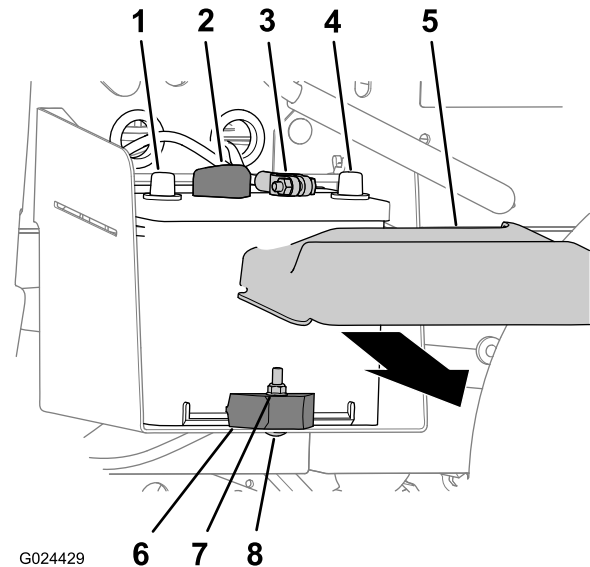

Figure 47
1. Squeeze the sides of the battery cover and remove the cover from the top of the battery (Figure 47).
2. Disconnect the negative battery cable from the terminal of the battery (Figure 47).
3. Disconnect the positive battery cable from the terminal of the battery (Figure 47).
2. Remove the locknut, carriage bolt, and battery clamp that secures the battery to the battery tray (Figure 47).
3. Remove the battery from the battery tray (Figure 47).
1. Align the battery to the battery tray of the machine (Figure 47).
**Note:** Ensure that the positive and negative posts of the battery are aligned as shown in Figure 47.
2. Secure the battery to the battery tray with the battery clamp, carriage bolt, and locknut (Figure 47).
1. Connect the positive battery cable to the terminal of the battery (Figure 47).
2. Connect the negative battery cable to the terminal of the battery (Figure 47).
3. Install the battery cover onto the top of the battery (Figure 47).